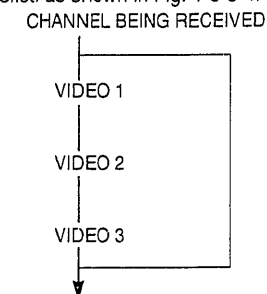

Fig. 1-6-3-4. Channel being received.
- Every time the AVX selection button is pressed, the input of the picture displayed on the screen changes in sequence as shown in Fig. 1-6-3-4.